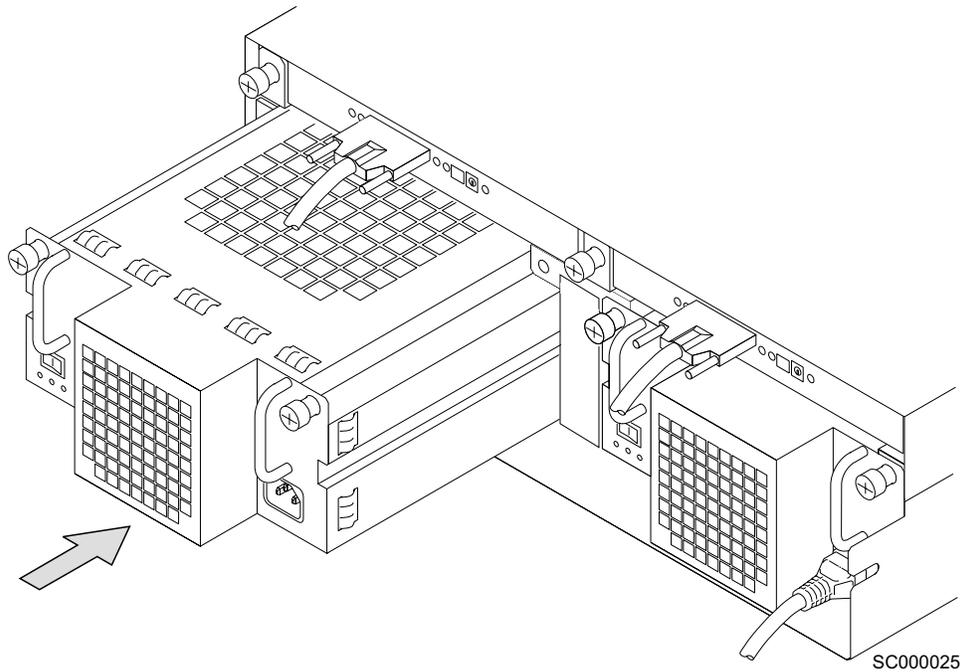

Figure 55. Inserting a replacement fan-and-power-supply assembly
5. Push the replacement fan-and-power-supply assembly fully into the 2104 Model DS4. See Figure 55.